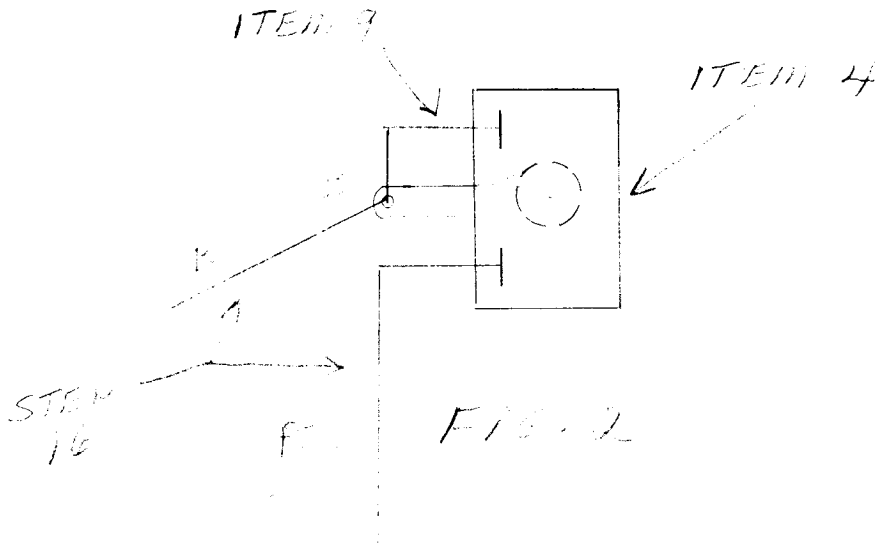

FIG. 2
9. Place Item 5 (ground lug) over threaded end of Item 4 (switch). Install switch in hole drilled in Step 8, with On side up. Place Item 10 (switch plate) over threaded end, Peak end Up. Install mounting nut. Refer Fig. 2.